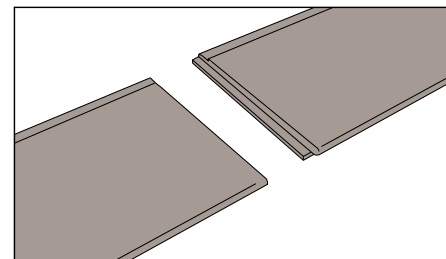

Fig. 15
- Evolution Siding uses Fraser-Lok technology that locks all 4 sides of the siding board – including ends. (See Figure 15)